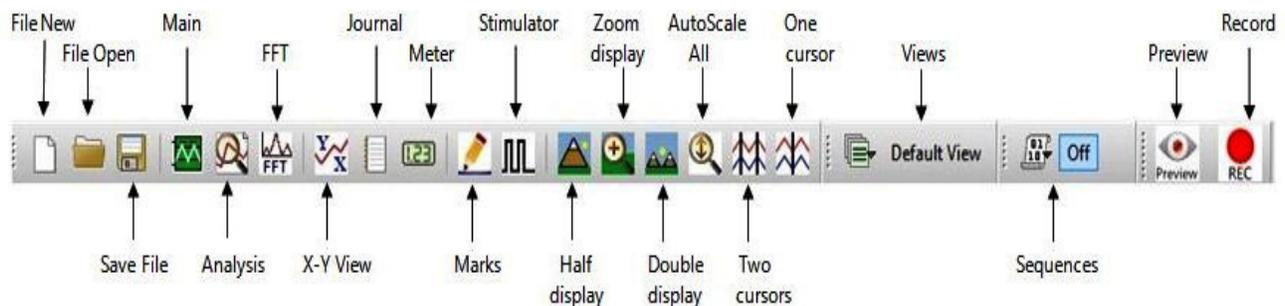

Figure HE-4-S18: The LabScribe toolbar.
20. Use the Display Time icons to adjust the Display Time of the Main window to show the complete calibration data (Figure HE-4-S18).
22. Click Advanced on the main toolbar. Then click Metabolic, and Calibrate flow head (Figure HE-4-S19).